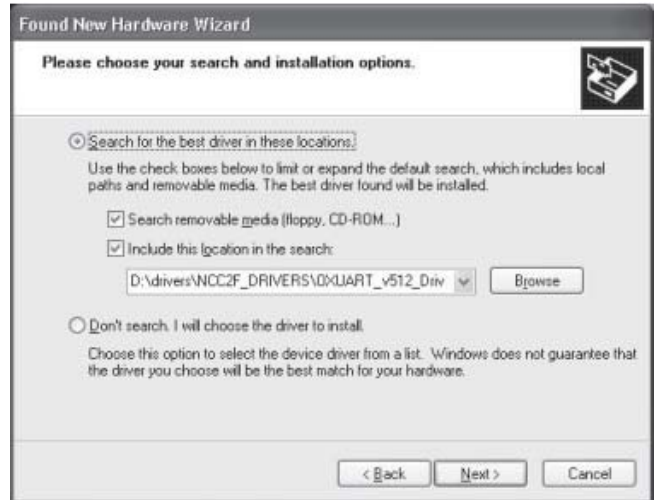

Figure 15
8. Select "Next>" and search for the folder where the OXUART_v512_DRIVERS are located. Refer to Figure 15.